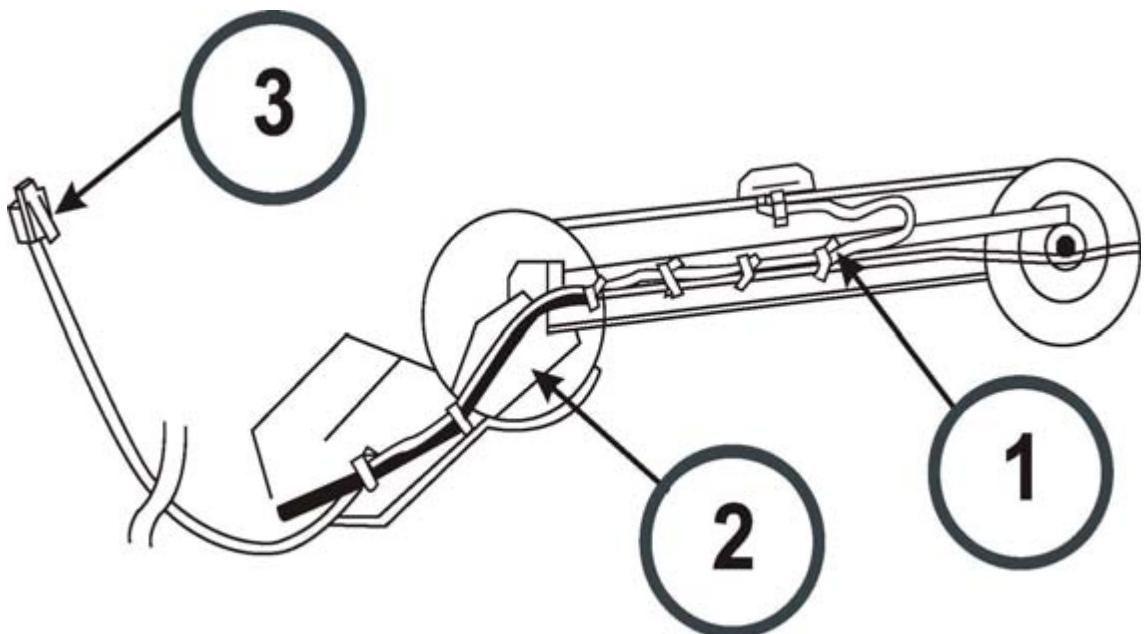

Fig. 5: Cabling
- Route the sensor cable to the remote control board. Refer to (1-3/Fig. 5 / p. 9).
- Ensure that there is no cable strain (2/Fig. 5 / p. 9) during movements of the arm.